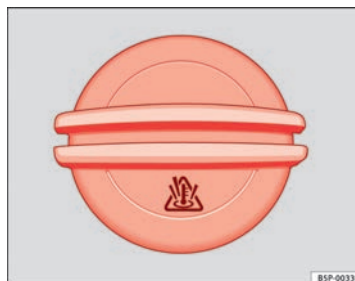

Fig. 174 In the engine compartment: Coolant expansion tank cap
- The coolant expansion tank is easily recognisable because of the symbol  on the cap ⇒ Fig. 174.